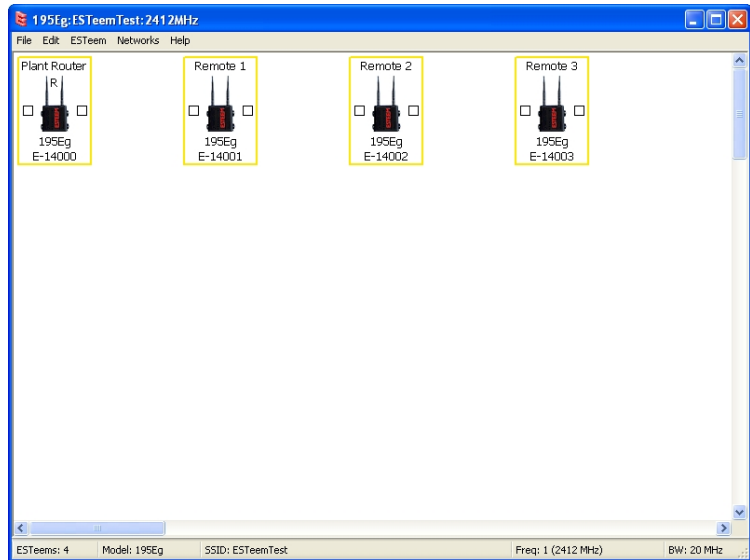

Figure 18: Router Mode Example Modems
1. Using the above procedure for adding ESTeem Model 195C/Ms, add the four ESTeem 195C/Ms for this example and rename by location. Your layout should appear like Figure 18.